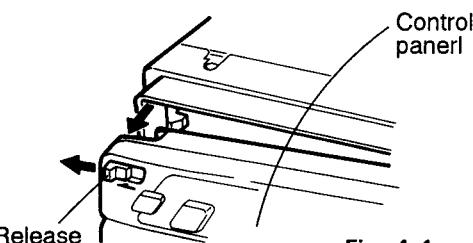

Fig. 4-4
(See Figs. 4-4 ~ 4-7)
1. While sliding the release switch on the upper left side of the control panel in the arrow direction, remove the control panel (See Fig. 4-4)